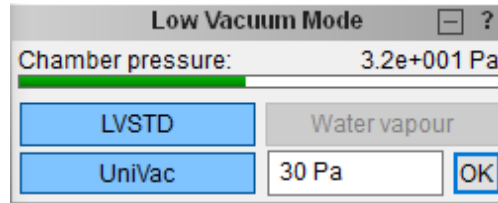

Figure LV3. Low Vacuum Mode panel.
2. Expand the LOW VACUUM MODE window by clicking in the + box on the right side of the title. The LOW VACUUM MODE window is shown in Figure LV3 below.